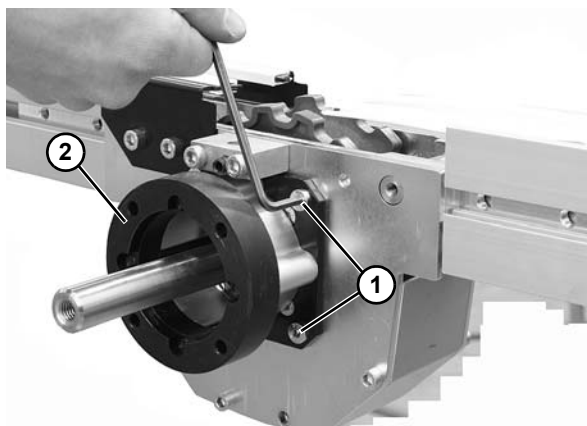

Figure 141
7. Remove four hex head cap screws (Figure 141, item 1) and remove drive motor mounting plate (Figure 141, item 2).